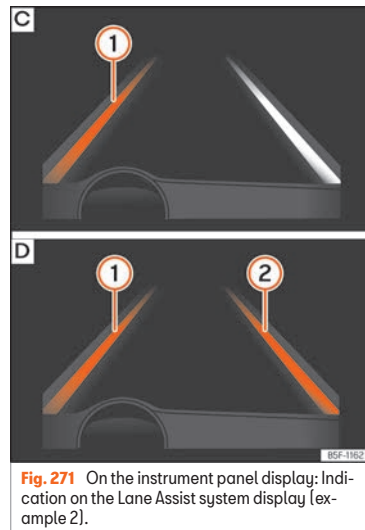

Fig. 271 On the instrument panel display: Indication on the Lane Assist system display [example 2].
- **Fig. 271 C:** The system is operational, the highlighted line ① indicates that there was a risk of involuntarily crossing the lane line and that the steering is being adjusted to correct the angle.
- **Fig. 271 D:** The two highlighted lines ① and ② light up simultaneously when both lane lines are recognised and the Lane Assist function is activated.